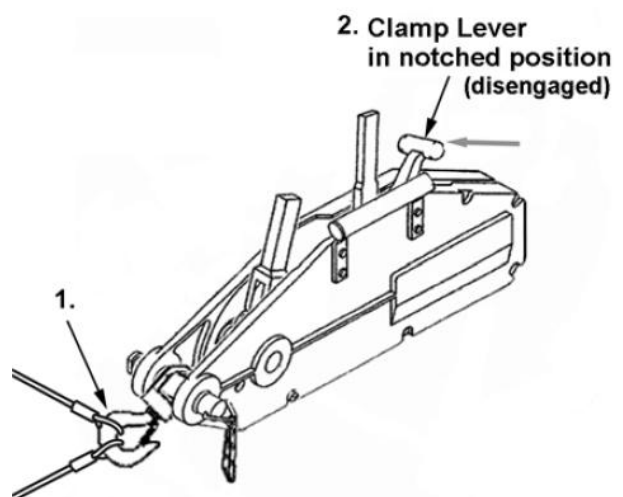

Figure 2
1. Attach the eye of the swivel hook to the fastening bolt on the puller. Be sure to install the cotter pin through the fastening bolt. Attach the hook to a suitable anchorage point, as shown in Figure 2.